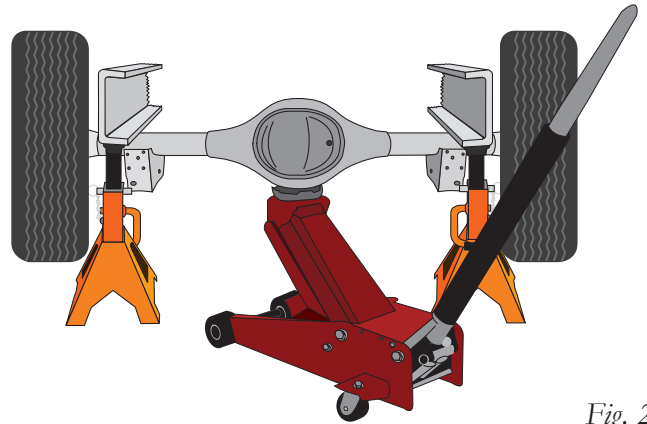

Fig. 2
1. Raise the vehicle and support the axle with safety stands, setting the safety stands as wide as possible on the axle (fig. 2).